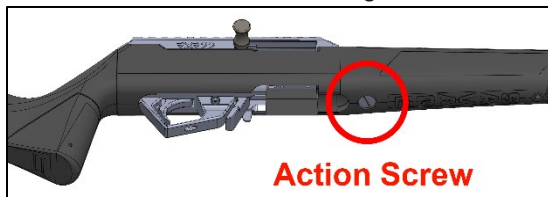

Figure 24
- Using an appropriately sized flat bladed screwdriver or a coin, rotate the action screw counterclockwise. Unthread it until the screw comes loose from the action – Figure 24.